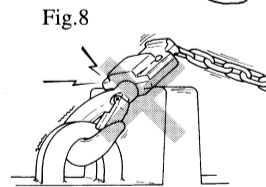
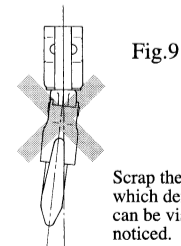

Fig.8
Fig.9
9) Do not apply a bending force to the hook of the chain hoist. Such handling ways as shown in Fig.8 are very dangerous and should be absolutely avoided. The hook clearly deformed as shown in Fig.9 should be scrapped and exchanged with a new and genuine one. Fig.9